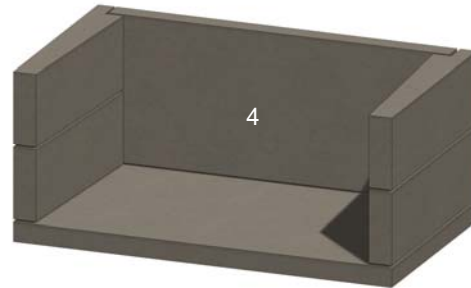

Figure 11. Back Plate
E. Install the back plate (4). Firebrick is optional on this model. If choosing to install firebrick, install them before placing the tapered throat pieces. See Figure 11.